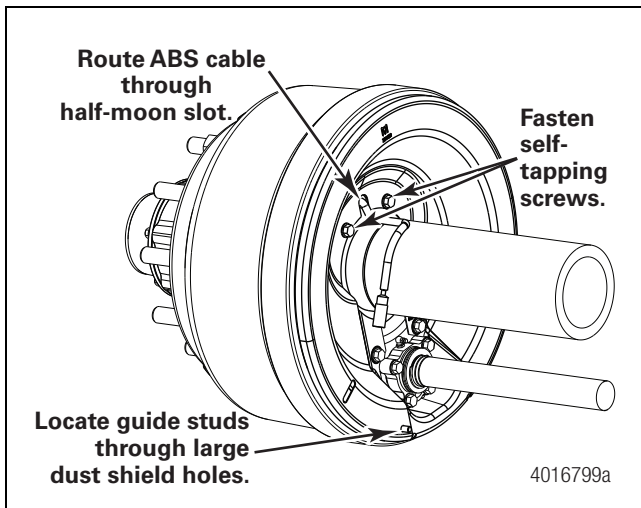

Figure 6
8. Align the spider holes and dust shield mounting holes. Install two self-tapping screws to fasten the large dust shield to the spider. Tighten to 30-45 lb-ft (41-61 N•m). Figure 6.